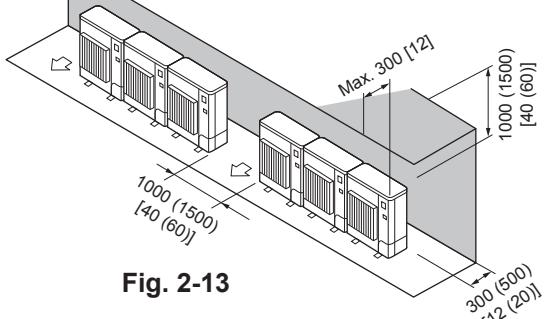

Fig. 2-13
② Obstacles at rear and above only (Fig. 2-13)